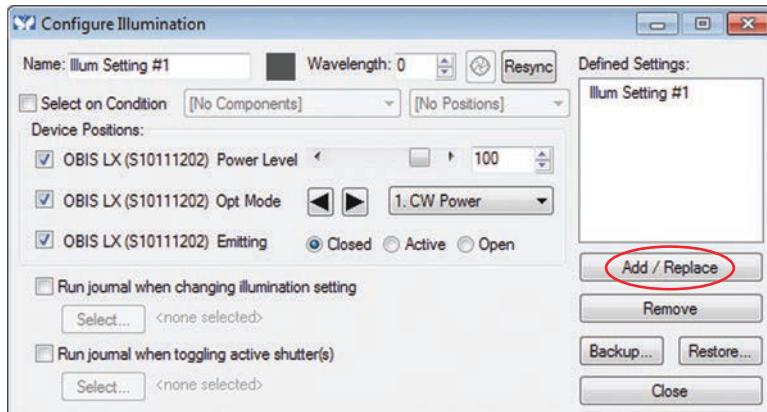

Figure H-23. Define New Settings
4. Adjust the parameters (as needed), and click the **Add / Replace** button shown in Figure H-23 to define the new settings.